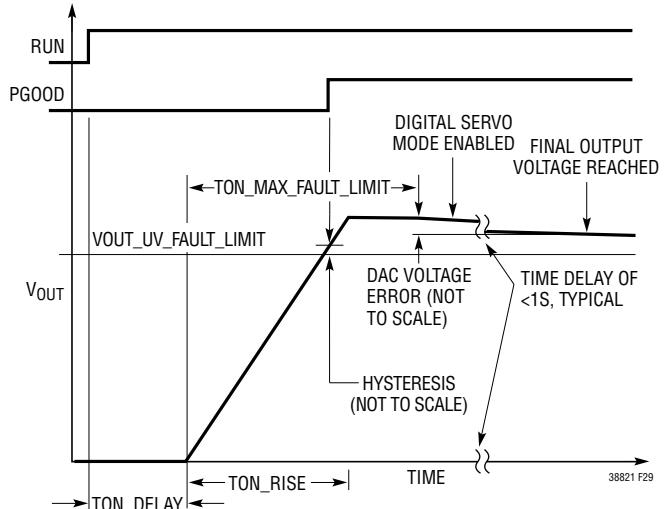
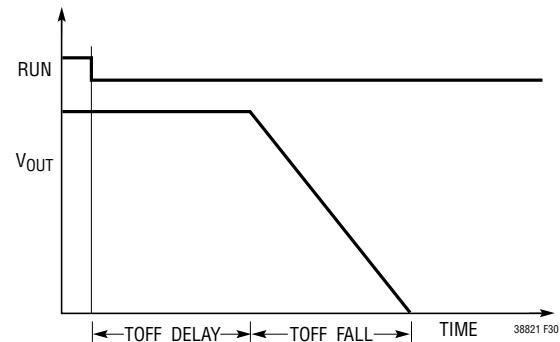
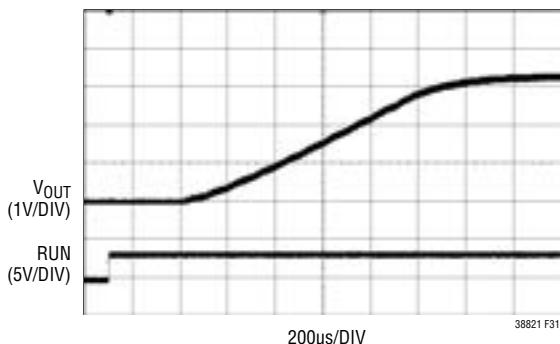

Figure 29. Time-Based V_{OUT} Turn-On
Figure 30. Time-Based V_{OUT} Turn-Off
Figure 31. Example of 1ms TON_RISE
The LTC3882-1 TON_DELAY and $TOFF_DELAY$ commands can be used in combination with the rise and fall time commands covered in the previous section to implement a wide range of versatile sequencing and ramping schemes. The key to time-based sequencing and ramping is the ability of LTC3882-1 master phases to move their outputs up and down according to PMBus command values as shown in Figure 29 and Figure 30.
As shown in Figure 29, it is important to remember that the hysteresis given in the Electrical Characteristics (EC) table applies above $V_{OUT_UV_FAULT_LIMIT}$, which specifies the UV limit when the output is falling out of regulation. For turn-on, the output must rise above this programmed limit plus the hysteresis to avoid exceeding $TON_MAX_FAULT_LIMIT$. $PGOOD$ is indicated at that point. For this reason, $V_{OUT_UV_FAULT_LIMIT}$ should be more than 27mV below the programmed output voltage in low range and more than 54mV below V_{OUT} in high range. There is a fixed delay and other timing uncertainty associated with all changes in output voltage controlled by the LTC3882-1. A nominal fixed timing delay of 270 μ s exists to process any change in output voltage, including soft start/stop, margining and general changes in $V_{OUT_COMMAND}$ value. The start of all time-based output operations occur with an uncertainty of $\pm 50\mu$ s and have a nominal step resolution of 100 μ s. This means the minimum TON_DELAY or $TOFF_DELAY$ that the LTC3882-1 can produce will range from 220 μ s to 320 μ s, not including basic oscillator tolerances. For software-based output changes (e.g., margining), this algorithmic delay begins when the STOP bit is received on the serial bus. An example of this minimum turn on/off delay and step-wise output control can be seen in Figure 31, where $TON_DELAY = 0s$ and $TON_RISE = 1ms$.
Digital servo mode then engages after `TON_MAX_FAULT_LIMIT` has expired as shown in Figure 29, unless that limit is set to 0s (infinite). In that case, the mode is engaged as soon as the above conditions are satisfied.